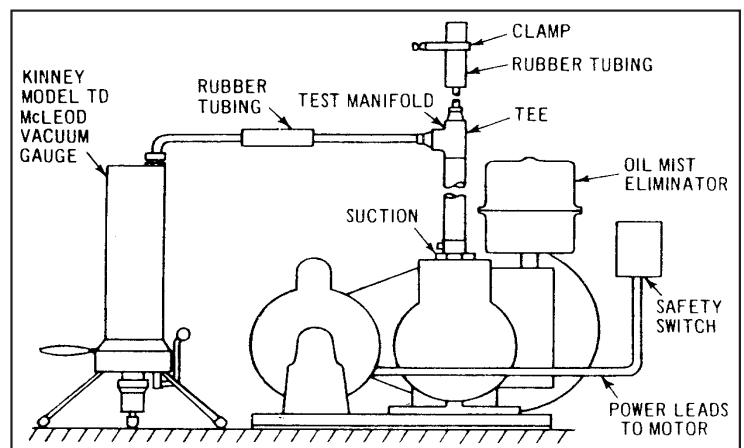

Figure 7. Pump Test Manifolding
If possible, also read the blank-off pressure with a thermistor or thermocouple gauge. Refer to Figure 7 and the Troubleshooting chart above for a listing of common faults in vacuum systems.
1. Close off the pump inlet by means of a vacuum valve or short segment of manifolding as shown in Figure 7.